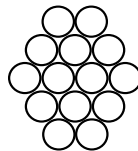

Figure 1 Cross-section of cannulae
**NOTE:** The cannulae should naturally move into the optimal space-saving configuration shown in figure 1; if not, remove heat shrink and repeat this step.